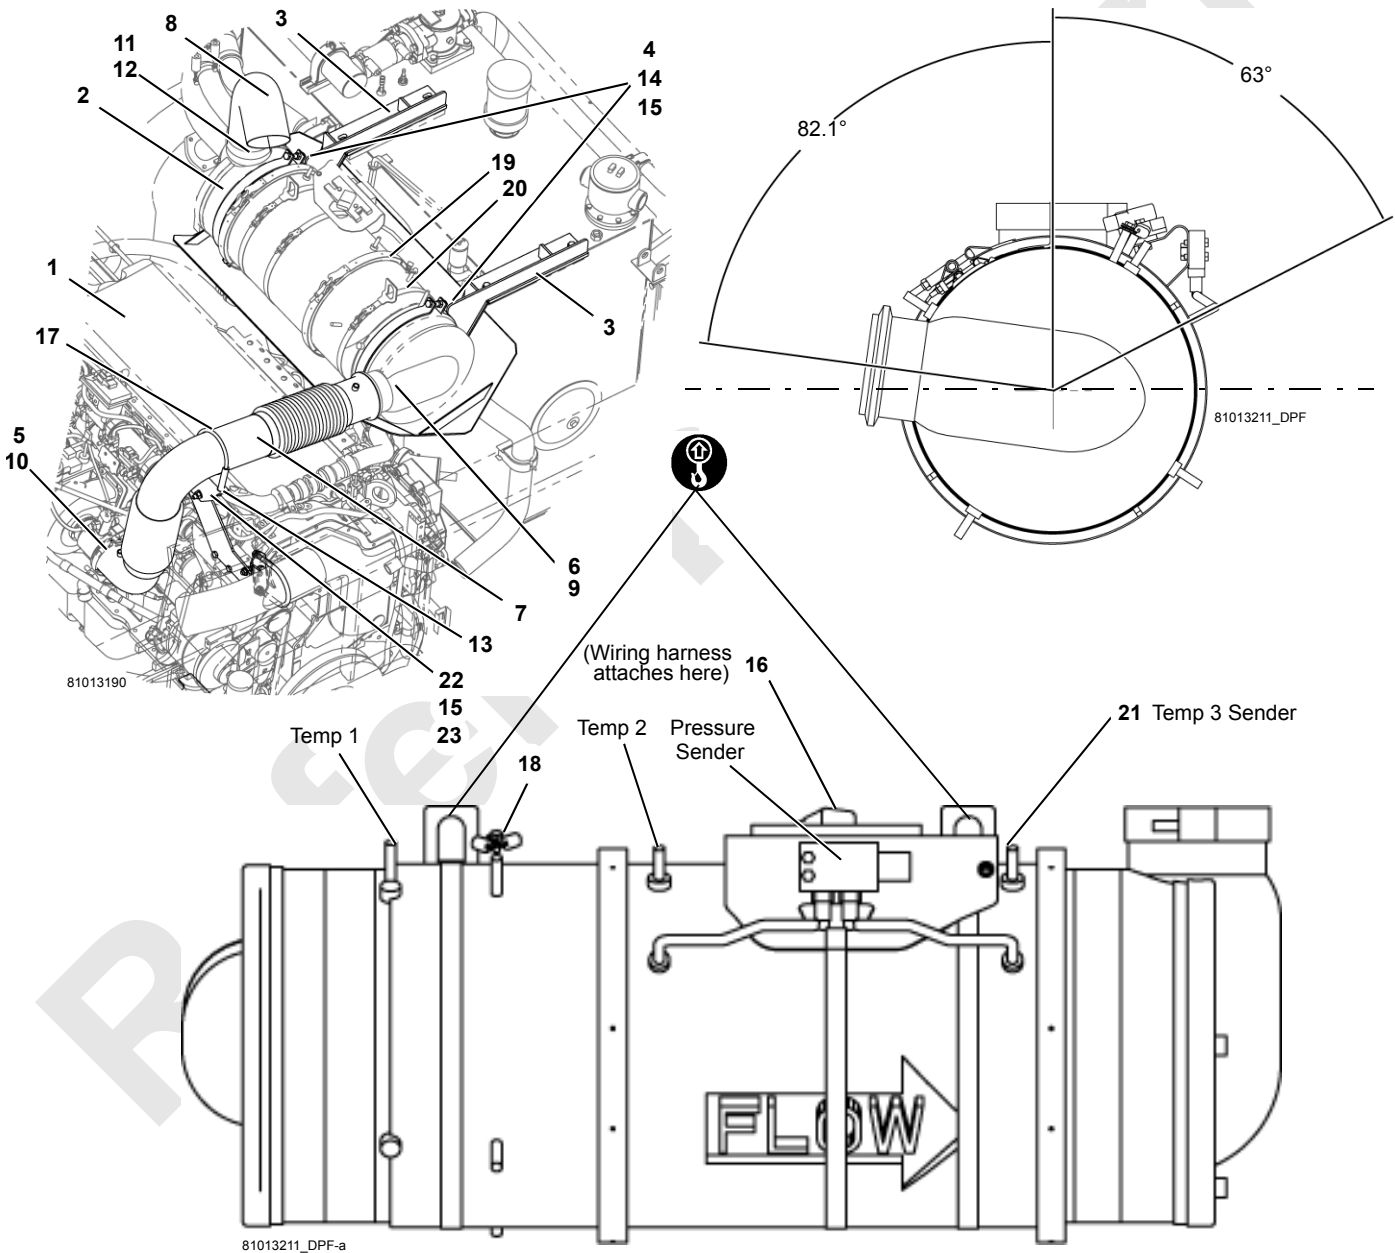

FIGURE 7-16
See Figure 7-16 for the following procedure.
9. Attach hoist chains to lifting hooks on the DPF (see Figure 7-16) and lift just enough to remove slack in the chain.
10. Remove two hex cap screws (14) and locknuts (15) on each DPF mounting strap (4) and remove the top half of the straps.
11. Using hoist, lift the DPF (2) out of the support.
Figure 7-16. If not correct, the DPF sections will need to be reoriented (see Side Inlet Re-orientation).
3. Position top half of mounting straps (4), then loosely tighten straps with hex-head cap screws (14) and locknuts (15).
4. Orient the DPF as shown in Figure 7-16.
5. Tighten hex-head cap screws (14) and locknuts (15) enough to clamp the filter, but not distort it.
6. Connect the DPF electrical wiring to the wiring harness (16).
7. Connect outlet tube assembly (8) to DPF (2).
8. Install and tighten V-band clamp (11) and clamp (12). Tighten V-band clamp (11) to a torque value of 14.8 ± 1.48 lbs-ft (20 ± 2.0 Nm).
9. Connect inlet tube assembly (7) to engine (1) and DPF (2).
10. Install U-bolt guillotine clamp (17) or secure tube support bracket using screws (22), locknuts (15) and washers (23).
11. Install V-band clamp (5) and gasket (10). Tighten V-band clamps (5) to a torque value of 14.8 ± 1.48 lbs-ft (20 ± 2.0 Nm).
12. Install and tighten clamp (6) and gasket (9).
1. Remove P-clamps (18) from standoff.
2. Loosen the V-band clamp (19) connecting the inlet section to the filter section until the inlet section can be freely rotated around the center section of the DPF. Do not fully remove the clamp or gasket.
3. Rotate the inlet section to the orientation shown in Figure 7-16.
4. Tighten V-band clamp (19) to a torque value of 14.8 ± 1.48 lbs-ft (20 ± 2.0 Nm).
5. Using a rubber mallet, gently tap the circumference of the clamp to ensure proper seating of V-band clamp (19). Re-torque V-clamp to a value of 14.8 ± 1.48 lbs-ft (20 ± 2.0 Nm).
6. Loosen the band clamp retaining the lifting hook (20) on the inlet section until the lifting hook can be freely rotated.
7. Return hook to vertical position. Ensure band clamp hardware is rotated 35° from the hook as shown in Figure 7-16. Adjust hook orientation to ensure sensor wires will not be damaged while lifting.
9. Re-install the P-clamps (18) and tighten to a torque of 64.6 ± 8.9 lbs-in (7.30 ± 1.0 Nm). Ensure wires installed in P-clamps are not within 1 in (25 mm) of DPF body. Avoid sharp bends and excessive tension in sensor wires.